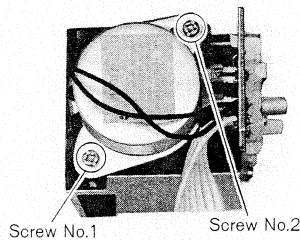

Fig. 5
- 5. Remove the two (2) screws (nos. 1 & 2) for the clock motor, as shown in fig. 5.